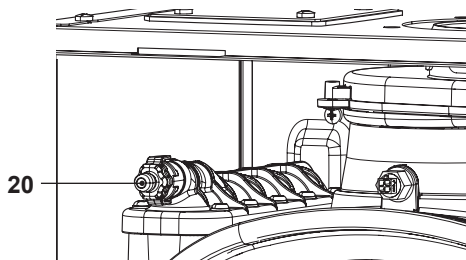

Fig. 10.12
- To help the draining of the primary circuit loose the condensing heat exchanger air purger valve 20 in Fig. 10.12.